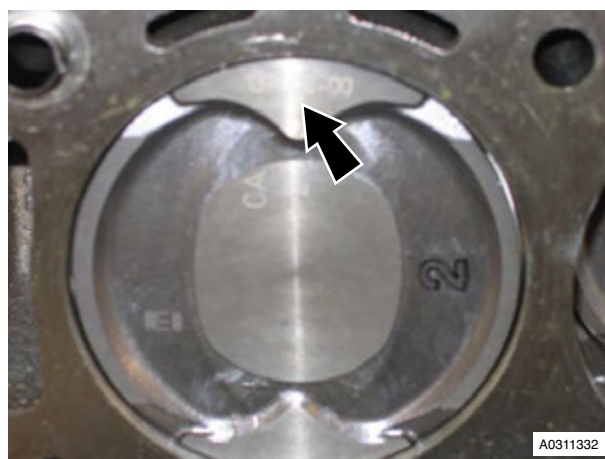

Figure 15
33. Note that piston grade number on crown and thick flange on connecting rod faces to front of engine on RH bank (A) (see Figure 15).